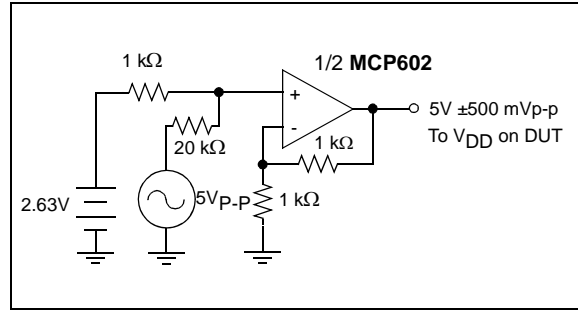

FIGURE 1-4: Power Supply Sensitivity Test Circuit (PSRR).
4: $V_{DD} = 5V$ DC ± 500 mV_{P-P} @ 1 kHz, see test circuit Figure 1-4.
- Note 4:** $V_{DD} = 5V$ DC ± 500 mV_{P-P} @ 1 kHz, see test circuit Figure 1-4.
- 4: $V_{DD} = 5V$ DC ± 500 mV_{p-p} @ 1 kHz, see test circuit Figure 1-4.